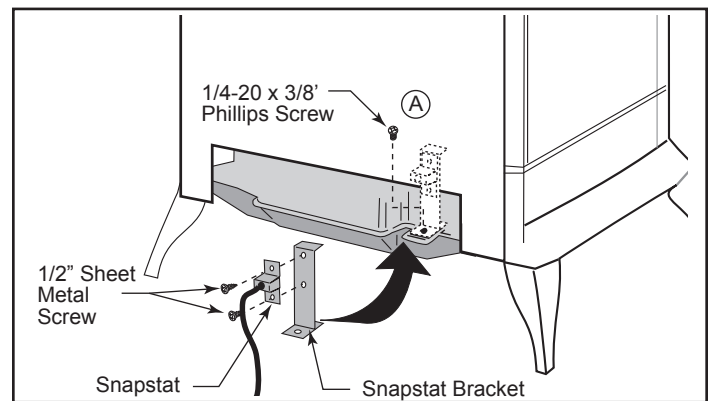
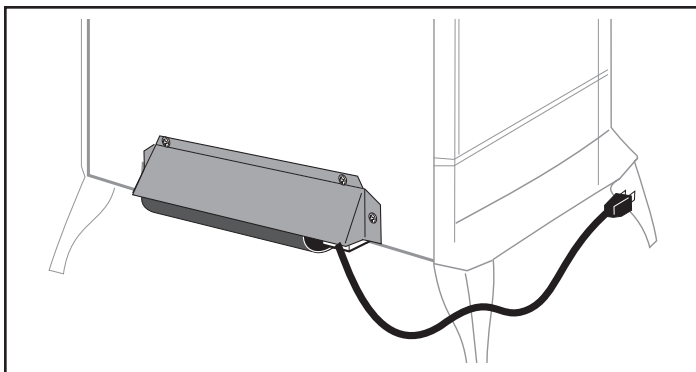

Figure 12 - Attach snapstat.
Figure 14 - Correct position of fan skirt installation.
2. Attach the Snapstat to the bracket using two (2) #10 x 1/2" Phillips screws, Figure 12.
3. Locate and remove the 1/4-20 x 3/8" hex head bolt installed in the hole in the right rear ledge of the firebox. (A, Figure 14) Use that bolt to secure the snapstat bracket to the firebox. The mounting hole is slotted to allow you to adjust the bracket so the snapstat head makes contact with the firebox surface, Figure 12.